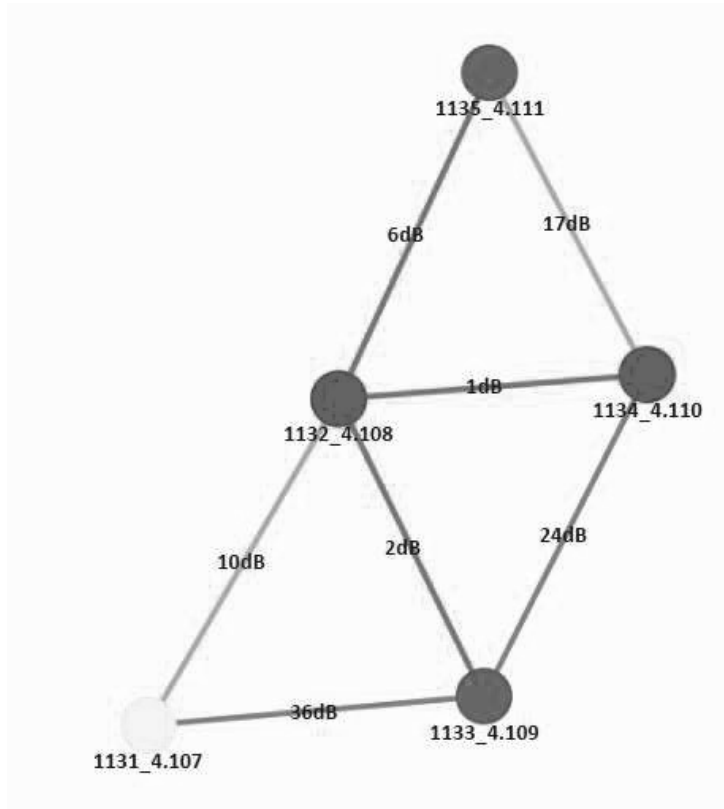

Figure 55 Example Network Topology
- **Color Coded Link Health** – Color coding of each link in the network allows the user to quickly identify the weak links within a network. A link between two nodes will transition from green to yellow to red as the link weakens while also displaying the SNR of the link. This can be seen in **Figure 55**.
- Route Health** – The Silvus StreamScope Utility will alert the user when too many packets are being routed through a single node. In such cases, a node will change from green to yellow to red as the packet queue increases (see ‘1132_4.108’ and ‘1131_4.107’ in **Figure 55**). This will allow the user to recognize the issue and rearrange the network accordingly. Table below also shows the values for each scenario.